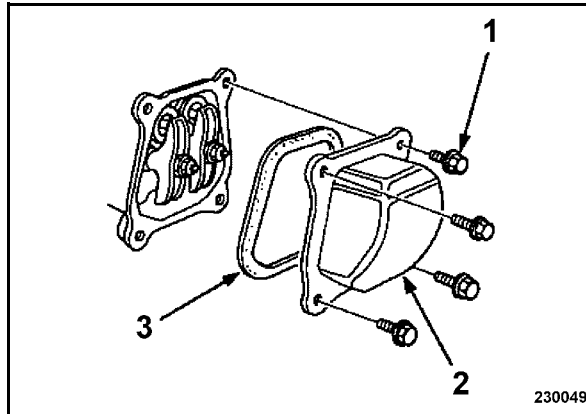

Fig. 47
- Loosen the screws (1) and take off the valve cover (2) (Fig. 47) with gasket (3).